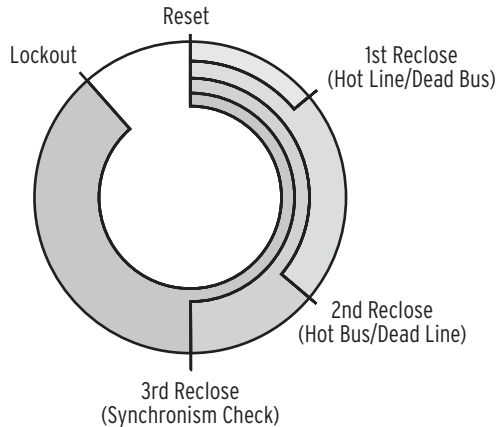

Figure 26 Motor-Driven Reclose Timer
- Emulate a motor-driven reclose timer, including stall, reset, and drive-to-lockout conditions (refer to *Figure 26*).